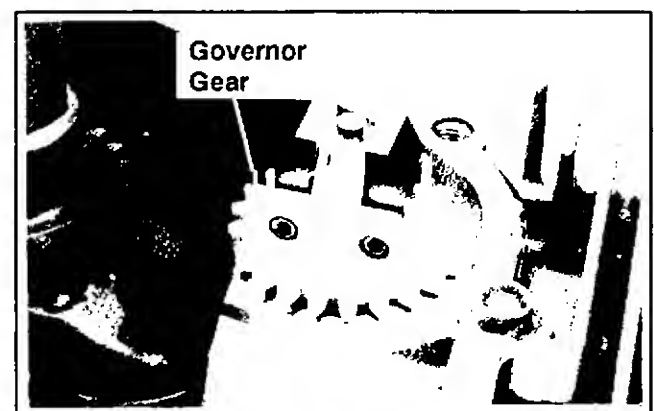

Figure 11-8. Installing Governor Gear.
1. Install plain washer and governor gear on crankcase stud. See Figure 11-8.